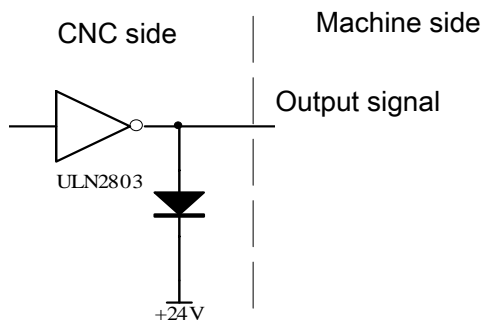

Fig. 2-36
2. TL+, TL- are tool post CCW/CW output signal, its interior circuit is shown in Fig.2-36: